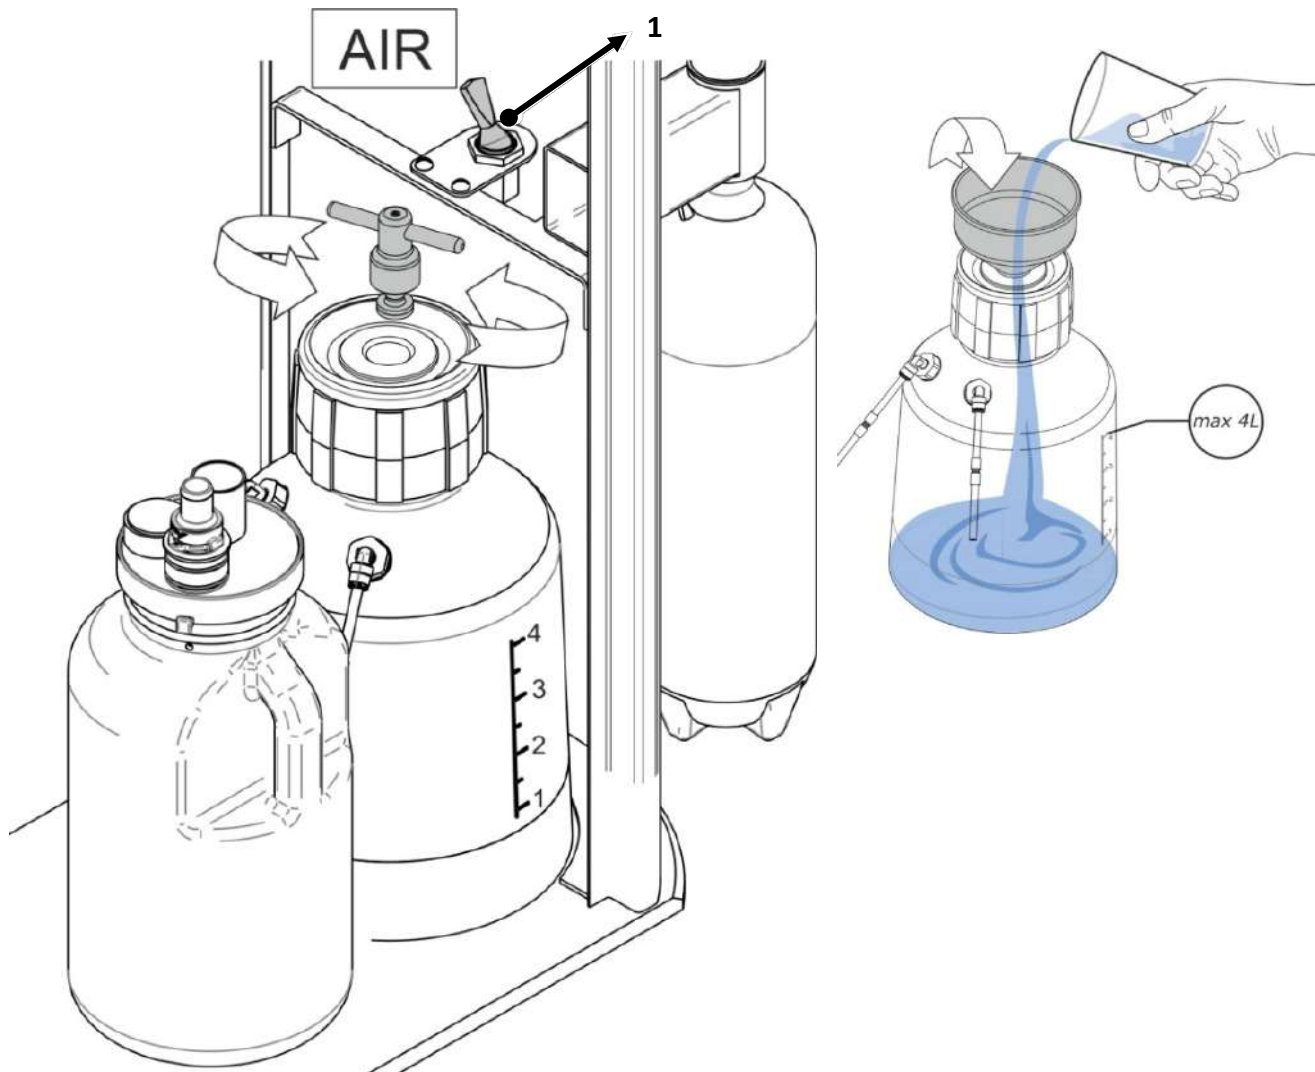

Figure 8.6.1
- turn off the switch (item 1. Figure 8.6.1.) of the air supply to the water tank;